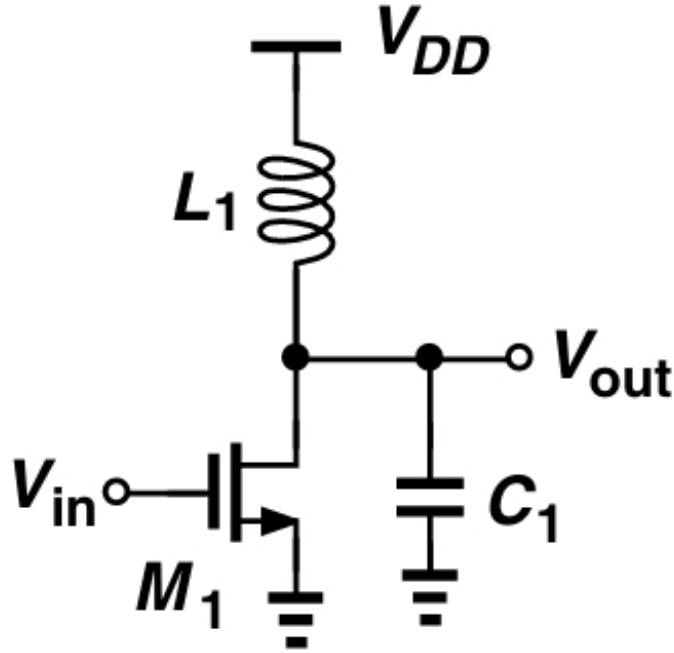

Figure 15: CS Amplifier with an Inductive (Tuned) Load.
- Using your knowledge of the Miller Effect (Section 15), qualitatively explain how replacing R_D with an inductor L_D (as in Figure 15) would affect the input impedance Z_{in} of the CS amplifier.